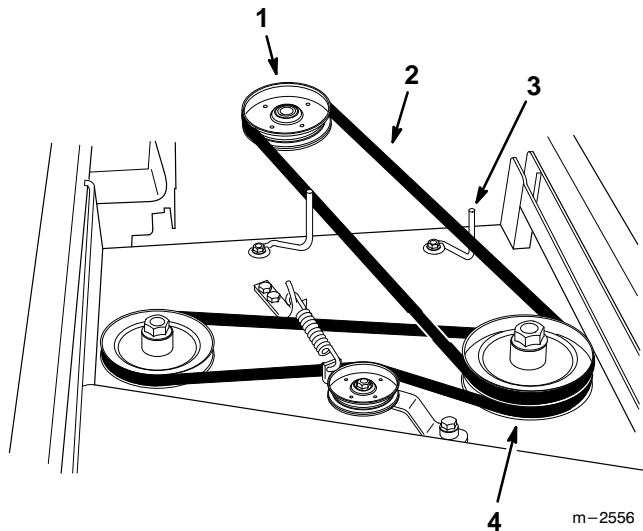

Figure 24
4. Remove the worn drive belt (Fig. 24).
5. Install the new drive belt onto the traction unit drive pulley and the top groove of the left spindle pulley (Fig. 24).